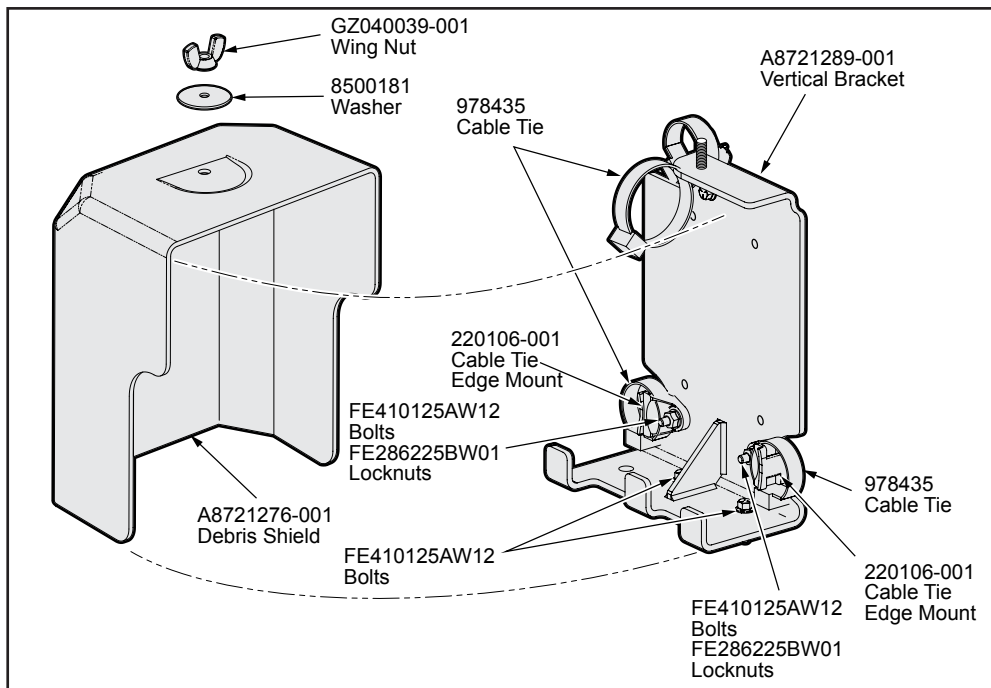

Figure 4
5. Install three 220106-001 Cable Tie Edge Mounts onto the Vertical Bracket and four 978435 Cable Ties (see Figure 4).
6. Install four FE410125AW12 Bolts and three FE286225BW01 Locknuts (see Figure 4).
9. Install the new A8721276-001 Debris Shield, 8500181 Flat Washer and the GZ040039-001 Wing Nut (see *Figure 4*).